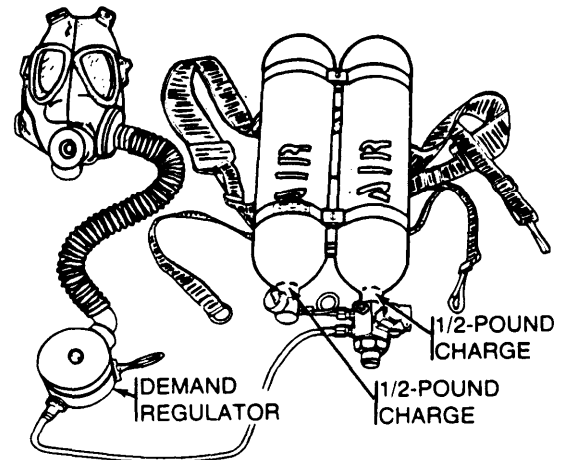

Figure 3-20. Explosive Charge Locations for M15 Breathing Apparatus.
(1) Lay apparatus down.
(2) Fasten 1/2-pound explosive charges on end of pressure cylinders (fig 3-20) next to pressure regulator and dummy head.
(3) Place demand regulator and facepiece between charges.
(4) Detonate all charges at the same time.